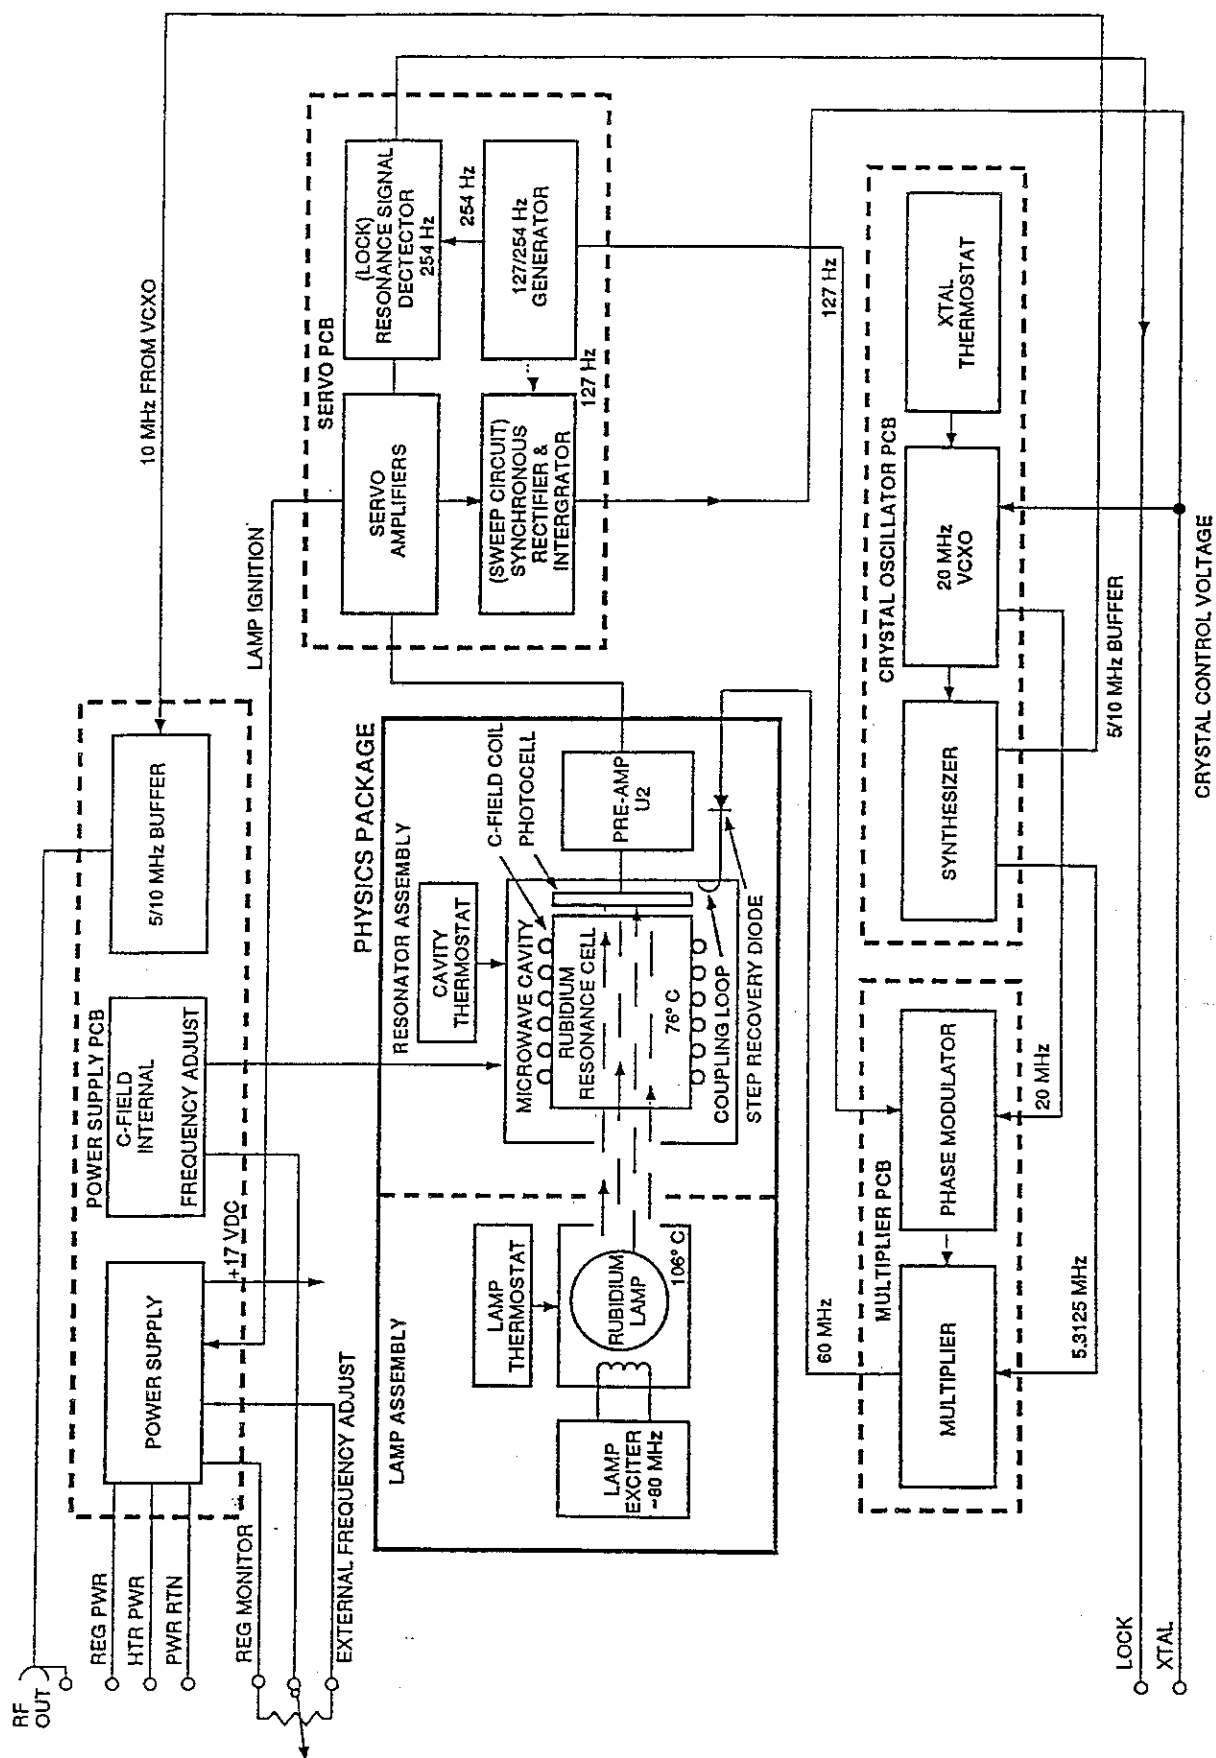

Figure 3-6. Detailed Block Diagram, FRS.
3.3 DETAILED CIRCUIT DESCRIPTIONS. Figure 3-6 (and the interconnect/wiring diagram in Appendix A) illustrate the interconnections of the flex board, physics package and the associated circuitry and circuit board assemblies that comprise the rubidium frequency standard.